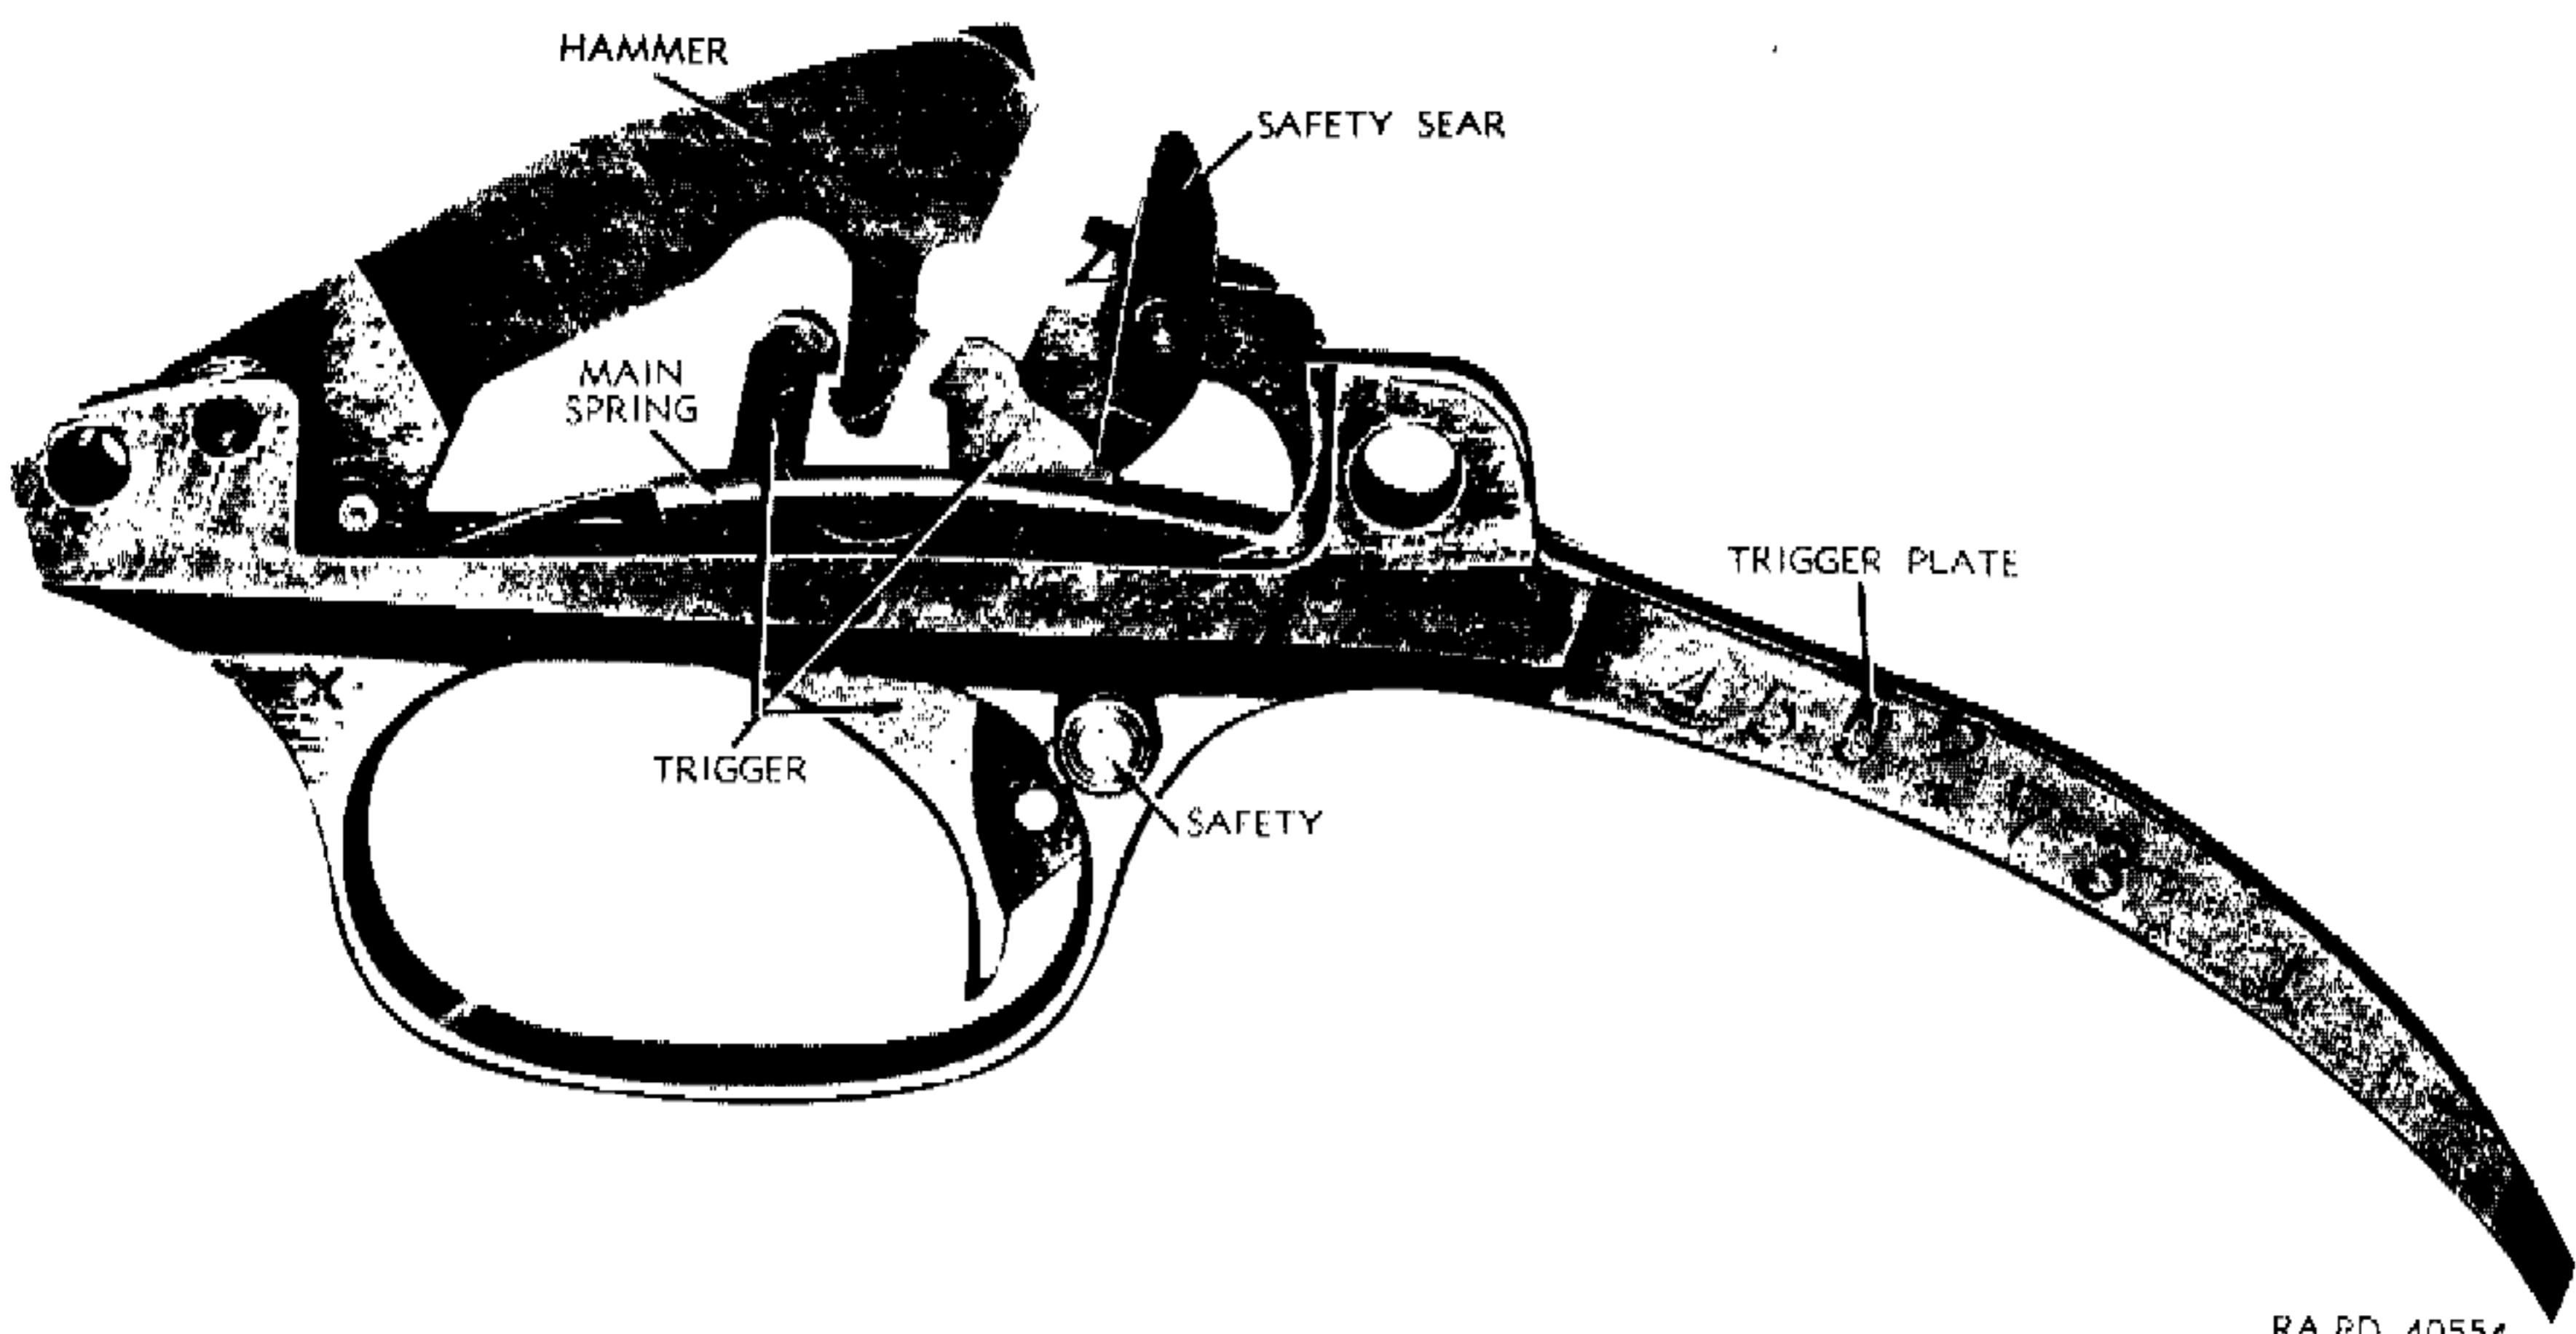

Figure 103—Trigger Plate Group—Left Side View—Remington Shotgun M11—Sportsman
(10) The trigger plate group (fig. 103) is composed of the hammer, trigger, safety sear, mainspring, and trigger safety together with their components. The hammer is pivoted in the forward end of the trigger plate and is functioned by the mainspring screwed to the tang of the trigger plate, and bearing on a roller in the lower end of the hammer. The mainspring is of the leaf type and is slotted to allow the upper end of the trigger, which acts as the sear, to protrude through it to engage the hammer. A lug extends from the upper rear face of the hammer in which there are two notches, one facing forward and the other to the rear. The trigger is pivoted in the rear end of the trigger plate; the lower end extending downward into the guard bow. The upper end of the trigger is U-shaped; the upper ends of the U, forming hooks facing towards each other. When in the cocked position, the notched hammer lug lies between these hooks and is held by one or the other as explained hereafter. This feature prevents the gun from firing automatically as the trigger must be released and again pulled before the gun will fire. The safety sear is pivoted on a lug on the trigger plate directly over the trigger and acts as a block to the trigger during the functioning of the operating mechanism. The safety sear is spring-actuated by a spring follower seated in the lug. The trigger safety is in form of a cylinder positioned in the trigger plate to the rear of the trigger and operating laterally in the trigger plate to block or free the trigger for pulling to fire the gun.
h. The hammer is cocked by the link, which straddles it, on the rearward movement of the bolt. The sear hooks on the trigger (fig. 103) engage with notches in the hammer to hold it in the cocked position, whether the trigger has been released between shots or not. The safety sear blocks the trigger preventing its being pulled until disengaged by the link as the bolt reaches the locked position. Detailed explanation of the functioning of the trigger is as follows:
(1) The upper part of the trigger is shaped like a U with two sear hooks facing each other. A lug projecting from the rear face of the hammer is notched on both sides to engage with the sear hooks on the trigger. The notched lug of the hammer rotates down between these hooks when cammed back by the link on the rearward movement of the bolt. If the trigger is in the forward (released) position, the forward hook engages with the forward notch in the hammer. If the trigger is in the rearward (pulled) position, the rear hook engages with the rear notch in the hammer. Thus the hammer is caught and held in the cocked position whether the trigger has been released or not. If the trigger has been held in the pulled position and the hammer caught by the rear hook, the trigger must be released and again pulled before the gun can be fired. Release